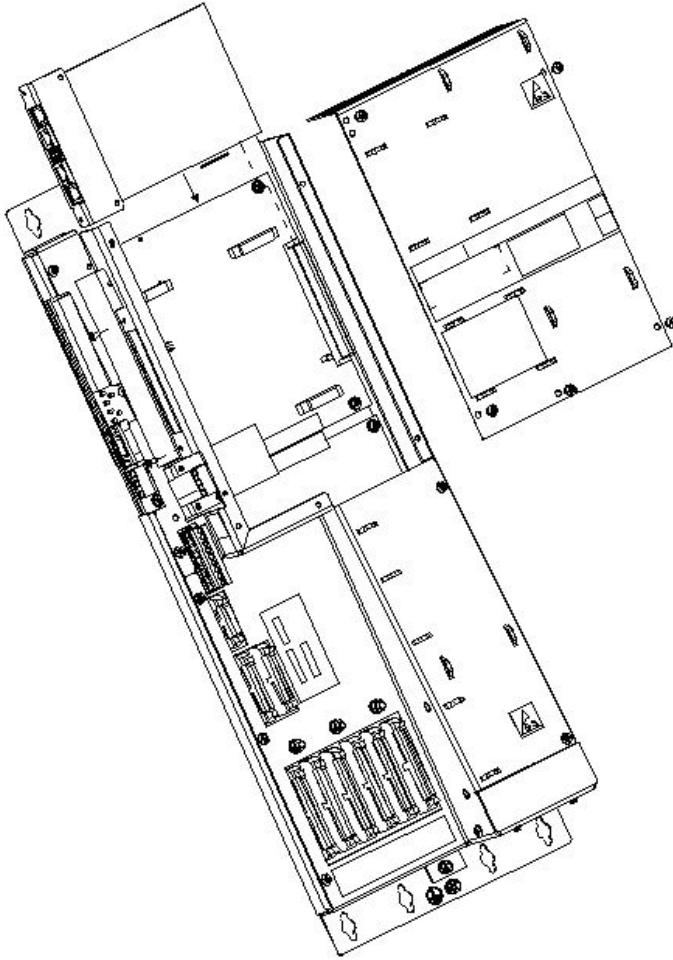

Figure 3-4. – DELTA Systems: Fitting the Ethernet Interface Module
- b) Referring to Figure 3-4 , remove the five M4 screws (E), securing the steel cover plate (G) covering the control board.